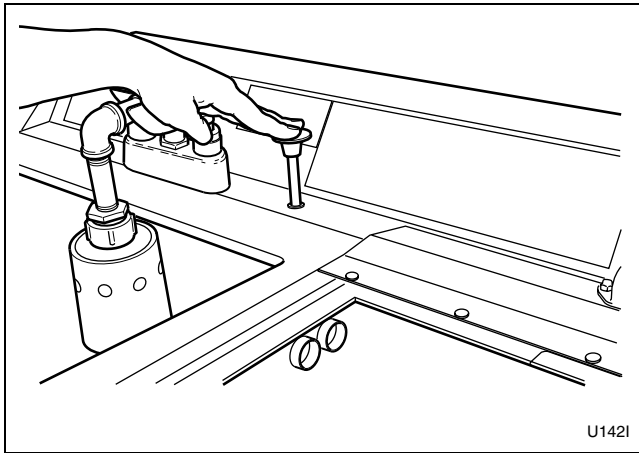

Figure 7
2. Close drain of wash compartment to be used. Refer to *Figure 7*.